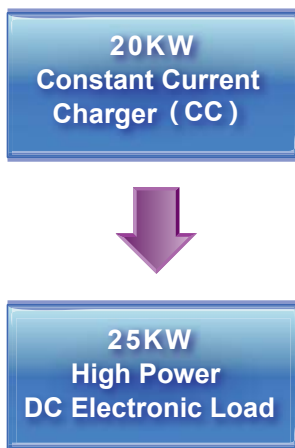

Figure 2 : Single charger connects to a single load
In case only a 20kW electronic load is available, a 5 kW load model can be added at any time to be used in parallel with the original 20kW load in Constant Voltage (CV) or Constant Resistive (CR) mode of operation. This is illustrated in Figure 2. This is due to the Prodigit load's OPL function which allows CV or CR mode with parallel loads of unequal power ratings. This capability offers great flexibility in deploying multiple loads for a wide range of power requirements.